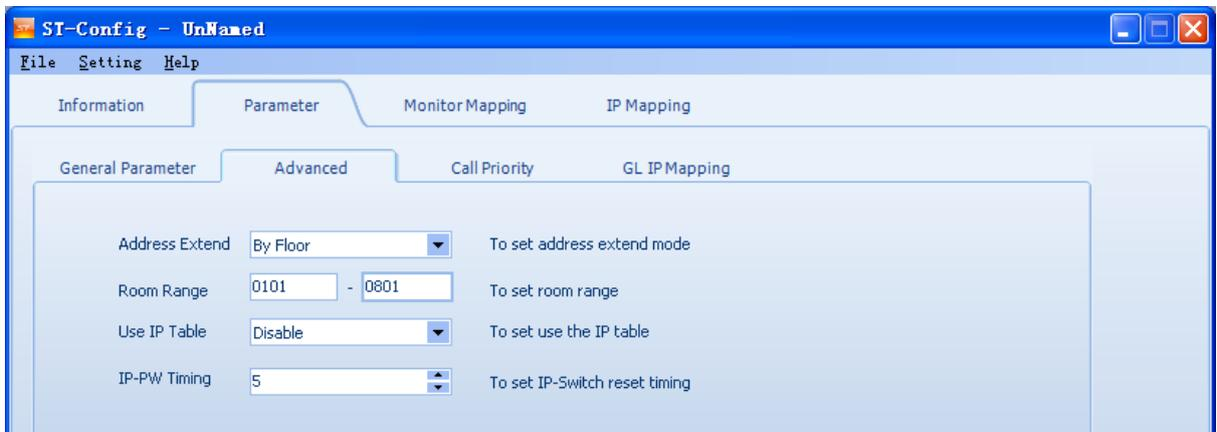

Figure 9
- ◆ Click Advanced menu as Figure 9 shows